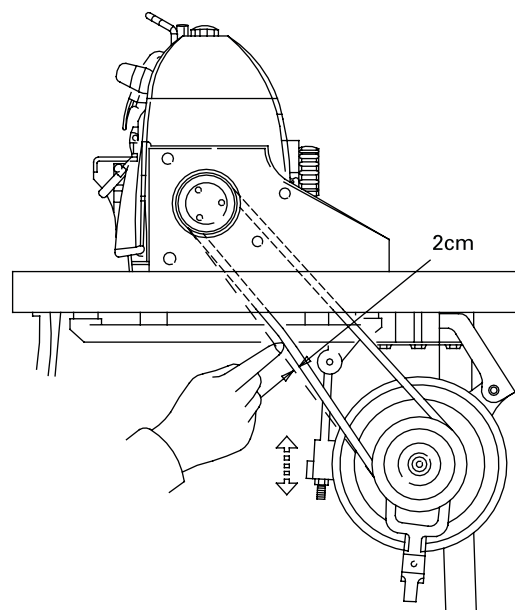

Figure 3
*Be sure the motor is clockwise directed, referred to figure 3.*